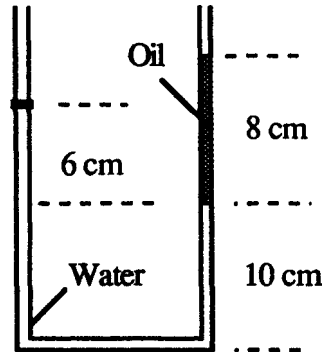

Fig. P2.23
**2.23** In Fig. P2.23 both fluids are at 20°C. If surface tension effects are negligible, what is the density of the oil, in  $\text{kg/m}^3$ ?